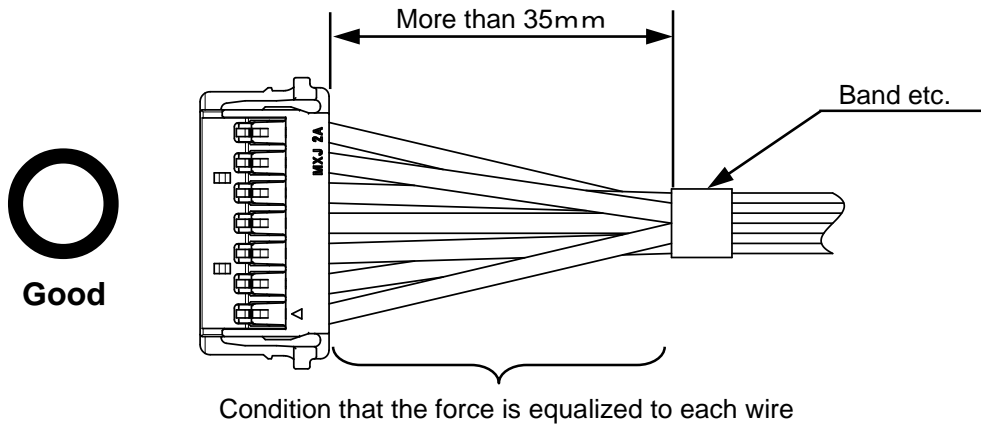

Fig.7-1 Condition that harness is banding properly
- ① Please band the wires at more than 35mm length from connector and equalize the force to each wires (Fig.7-1)